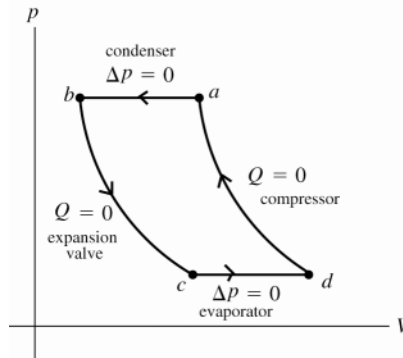

Figure 20.48
20.48. IDENTIFY and SET UP: For the constant pressure processes ab and cd calculate W and use the first law to calculate Q . Calculate Q_{tot} and use that $W_{\text{tot}} = Q_{\text{tot}}$ for a cycle. The coefficient of performance is given by Eq.(20.9); Q_c is the net heat that goes into the system. The cycle is sketched in Figure 20.48.